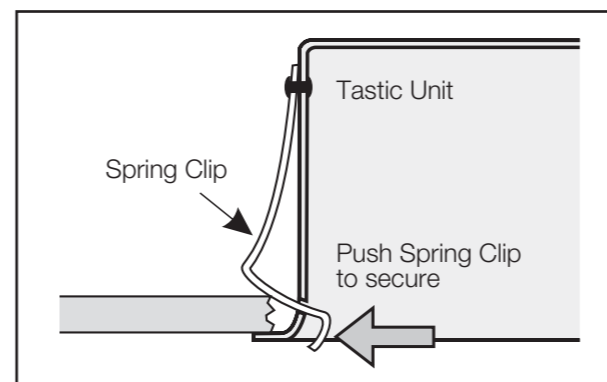

Fig 12.
4. To secure the unit in position, push lower ends of springs apart (Fig 12).